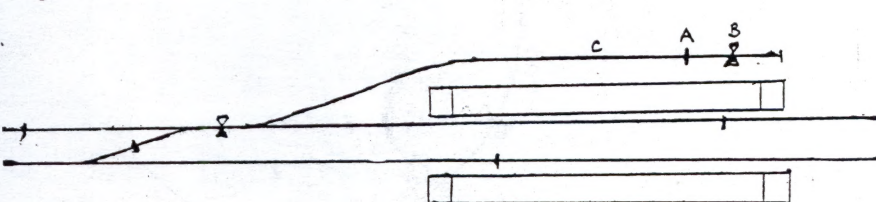

Figure 11.
An example of this is shown in figure 11. Here we have a terminating track at a station. We intend to operate this track by running a train into the track, uncoupling the locomotive and isolating it at the end of the line, and then coupling another locomotive to the other end of the train so as to take the train back in the other direction. An additional railbreak is required at (A) because without it we would end up with both of the locomotives in the same section of track. The additional feed at (B) can be powered from (C) via an on/off switch on the panel so that the locomotive that delivered the train can depart once the turnout feeding the siding has been set appropriately.